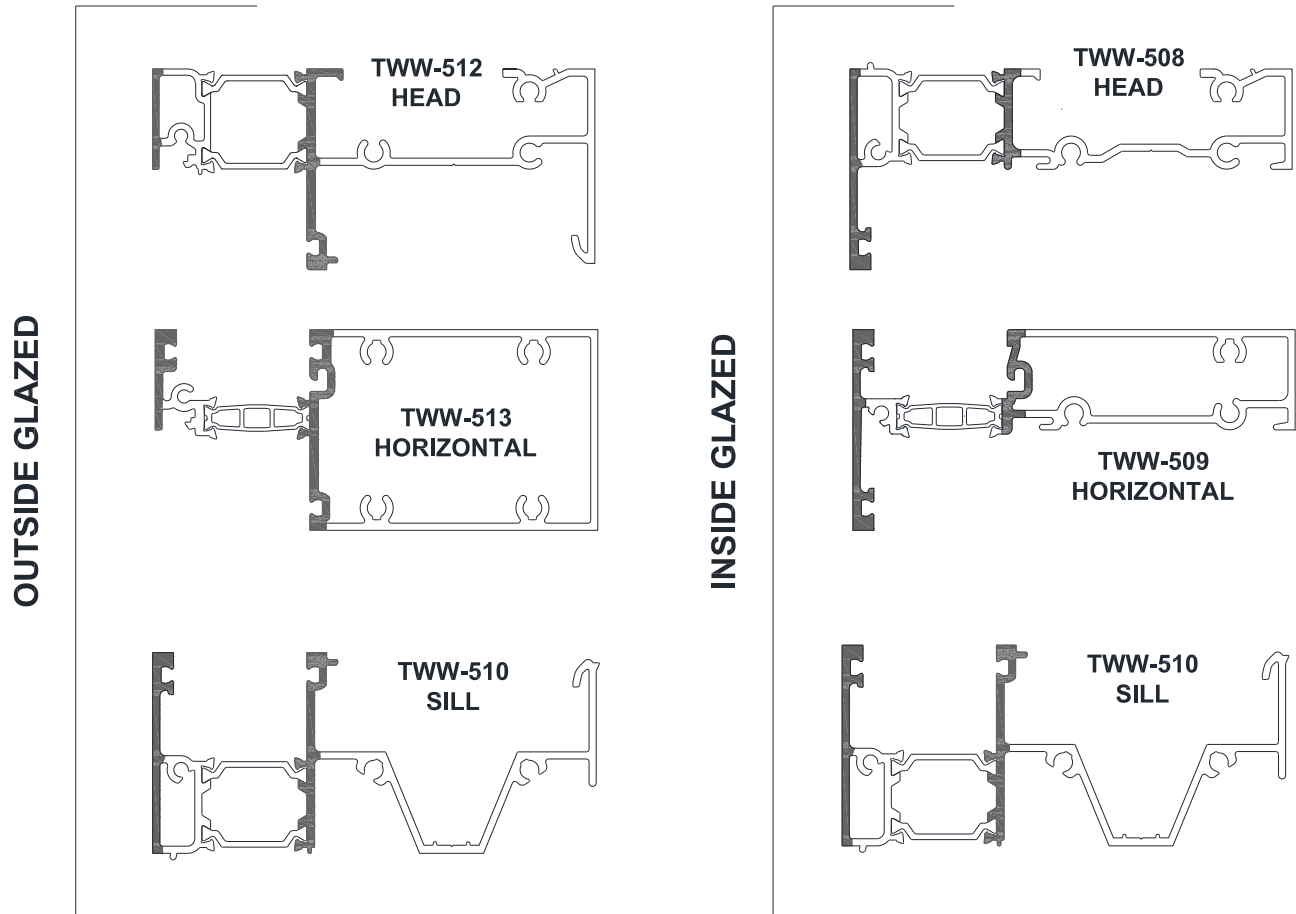

Figure 32: Sealing
- 12.2.5 Apply Sealant to the end of the Head, Horizontal, and Sill that will attach to the Mullion or Jamb, as detailed in *Figure 32*.